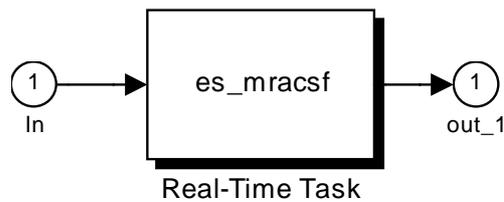

Figure 8-5: The *Real-Time Task* block.
- *Downsampling ratio* - this parameter decreases the rate of output data flow from the output of the *Real Time Task* (see Figure 8-5). For example, if the downsampling coefficient is 10, for each 10 sampling periods only one is transferred to the output of the block.